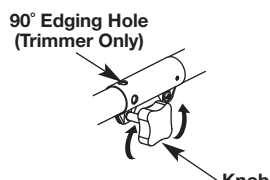

Fig. 5
1. Turn the knob counterclockwise to loosen (Fig. 5).
1. Turn knob counterclockwise to loosen (Fig. 5).
3. Turn the knob clockwise to tighten (Fig. 5).
For decorative trimming/edging with the line cutting head, lock the release button into the 90° hole (Fig. 5).